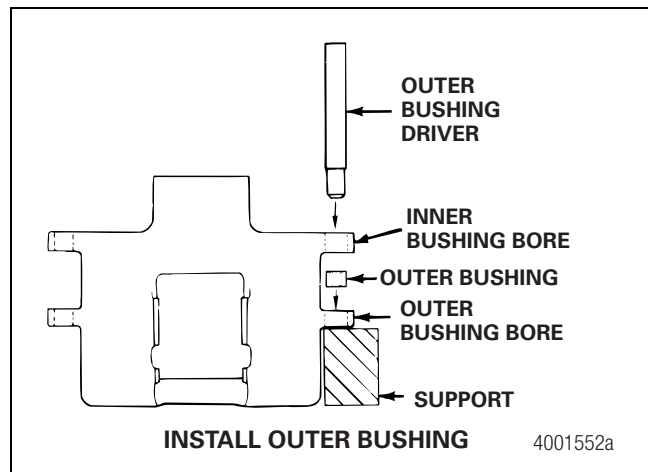

Figure 4.9
2. Use the outer bushing driver and a mallet or press to install the outer bushings. This will avoid damaging the inner diameters of the bushings. Figure 4.9.
4. Align the small diameter end of the outer bushing driver through the inner bushing bore and into the outer bushing. Figure 4.9.